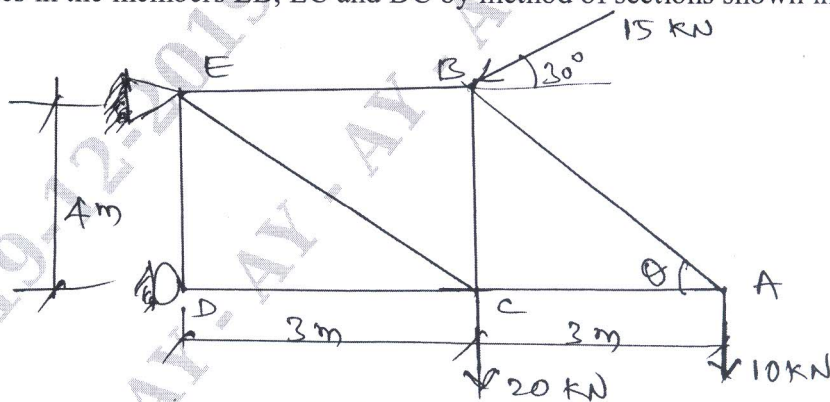

Fig.Q2(c)
- c. Find the forces in the members EB, EC and DC by method of sections shown in Fig.Q2(c).